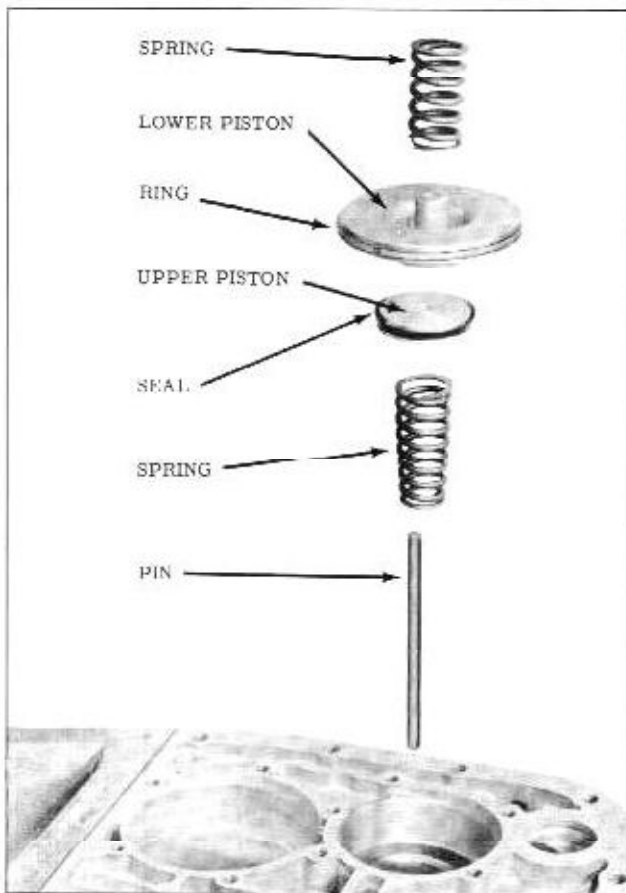

Fig. 3-127 Accumulator Installation
1. Install accumulator pin into case. (Fig. 3-127)